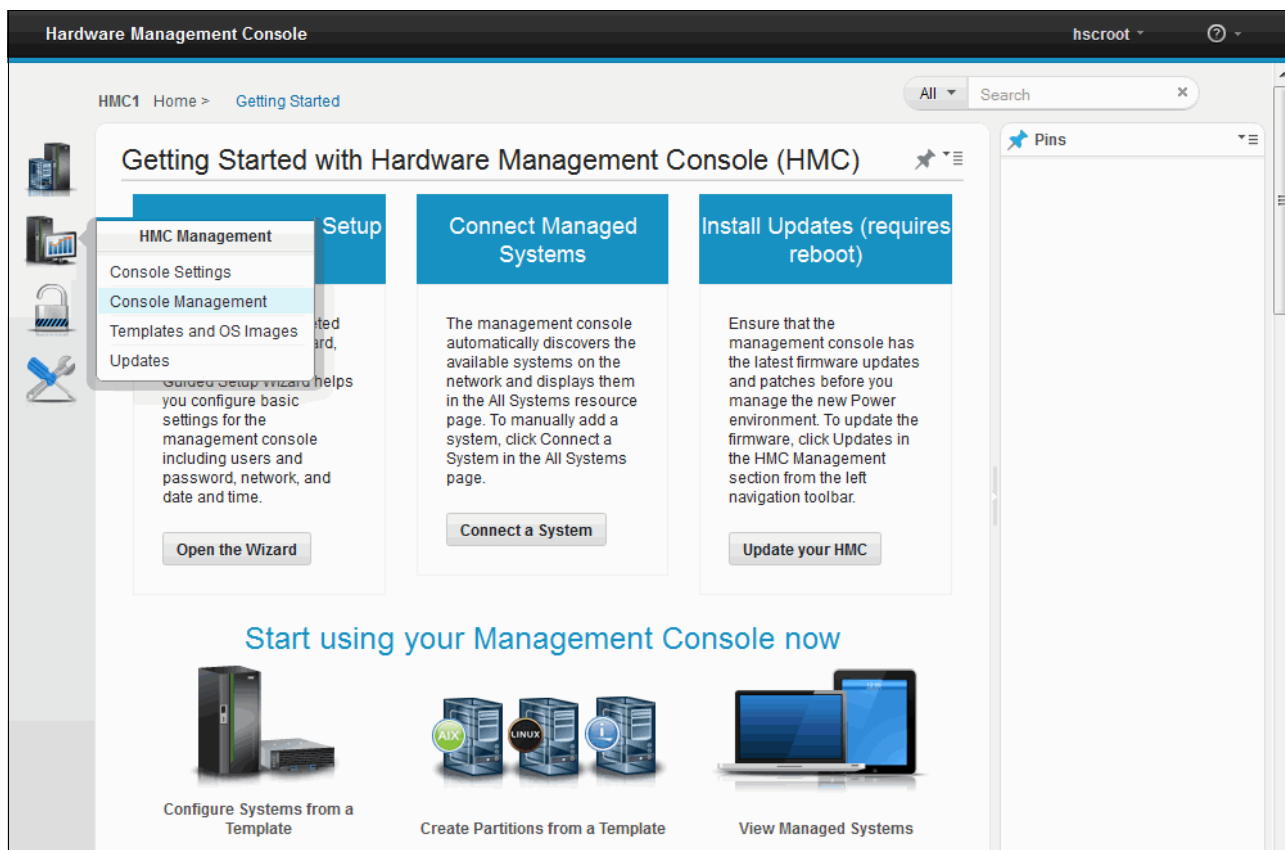

Figure 3-113 Go to HMC Management
1. From the Welcome panel (Figure 3-113), click the **HMC Management** on the left and then select **Console Management**.